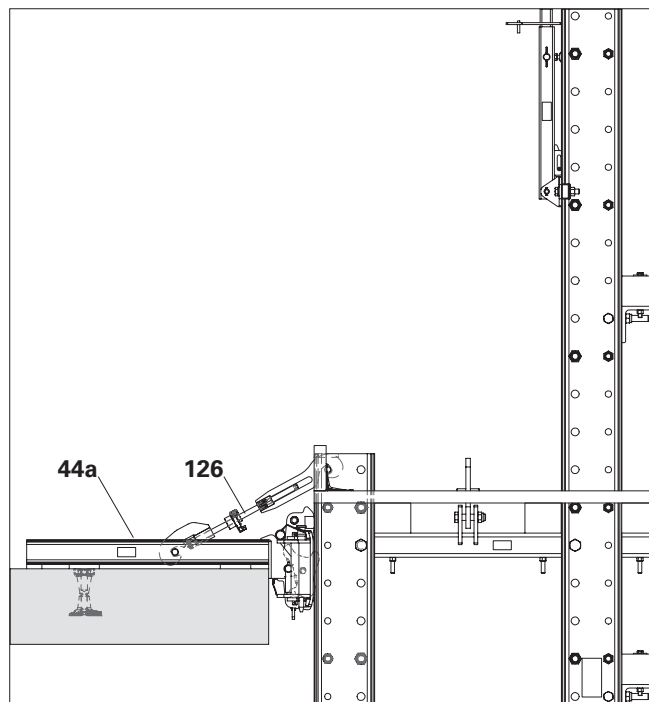

Fig. D4.08
2. Pull the climbing rail inwards by means of the guide-in tool (126).
- (Fig. D4.08 + D4.08a)